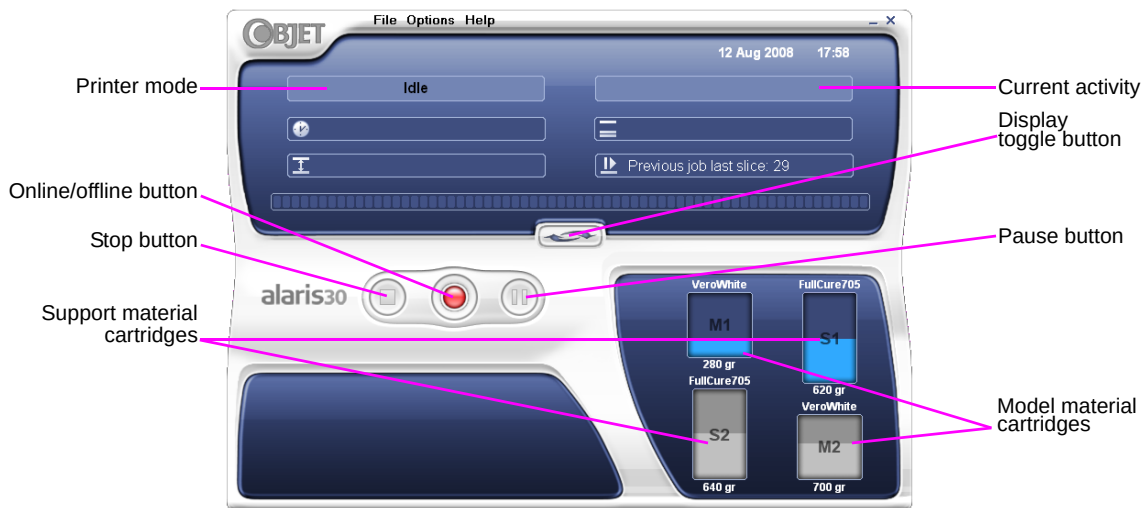

Figure 7-3: Alaris30 interface
The Alaris30 printer interface screen opens (see figure 7-3). All monitoring and controlling of the Alaris30 printer is done from this interface.
The Alaris30 printer uses two cartridges of model material and two cartridges of support material, each weighing one kilogram when full. A graphical representation of the cartridges and their current weight appears in the printer interface (see figure 7-3).
4. Check the Alaris30 printer interface to make sure that the new cartridge is detected and that its weight is displayed (see figure 7-3).
2. Make sure that there is sufficient model and support material loaded in the printer, as indicated in the Alaris30 printer interface (see figure 7-3). You may want to replace the cartridges of model and support material currently loaded in the printer to avoid the need for replacing them during printing.
1. Switch the printer to online mode by clicking the red button at the bottom of the Alaris30 printer interface (see figure 7-3 on page 3).
Note: The printer mode is indicated in the green field on the left of the interface (see figures 7-3, 7-6 and 7-7 on pages 3, 6 and 7).